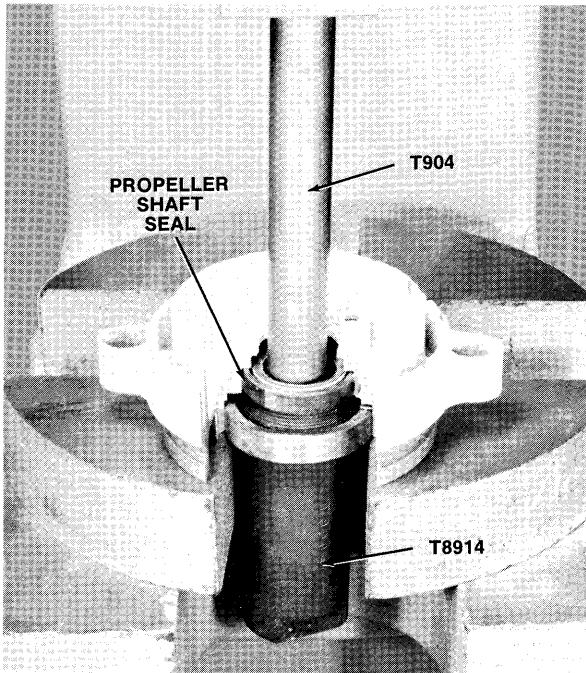

Figure 19—Pressing Out Seal
- G. Take this assembly to a press and press seal out as shown in figure 19.